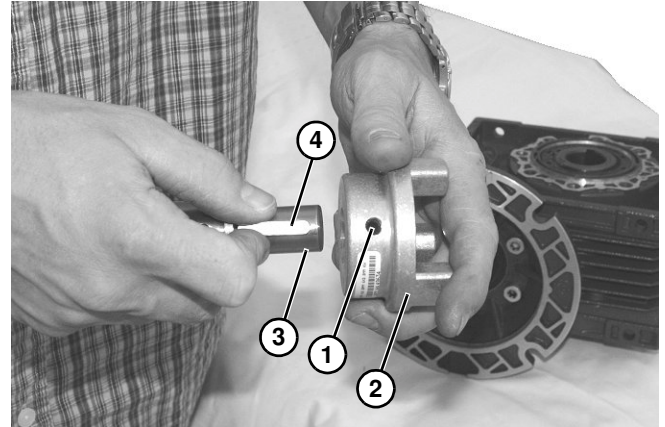

Figure 16
- Inspect gear reducer output shaft assembly for wear or damage. If necessary, loosen set screw (**Figure 16, item 1**) and remove 3 jaw coupling (**Figure 16, item 2**) from gear reducer output shaft (**Figure 16, item 3**).
- Remove key from in slot in gear reducer output shaft assembly (**Figure 16, item 4**). Install new components for shaft reverse of removal. Tighten set screw (**Figure 16, item 1**) to 35 in-lb (4 Nm).